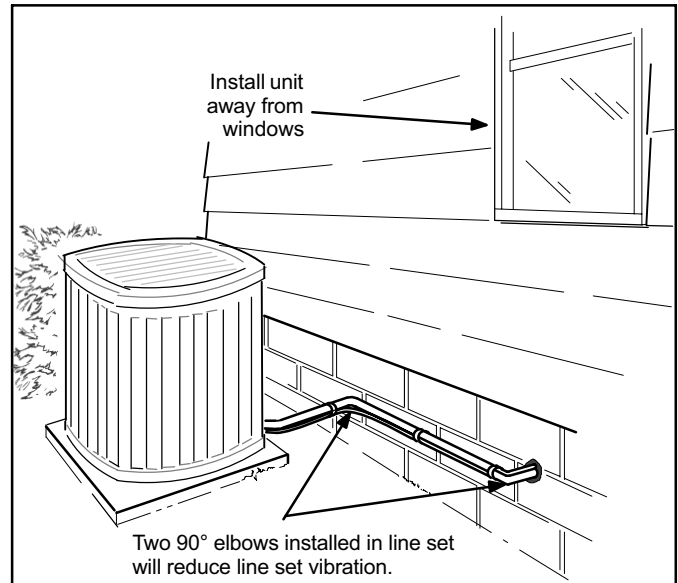

Figure 13. Outside Unit Placement and Installation
- 1. Placement**—Some localities are adopting sound ordinances based on the unit's noise level observed from the adjacent property, not from the installation property. Install the unit as far as possible from the property line. When possible, do not install the unit directly outside a window. Figure 13 shows how to place the outdoor unit and line set.